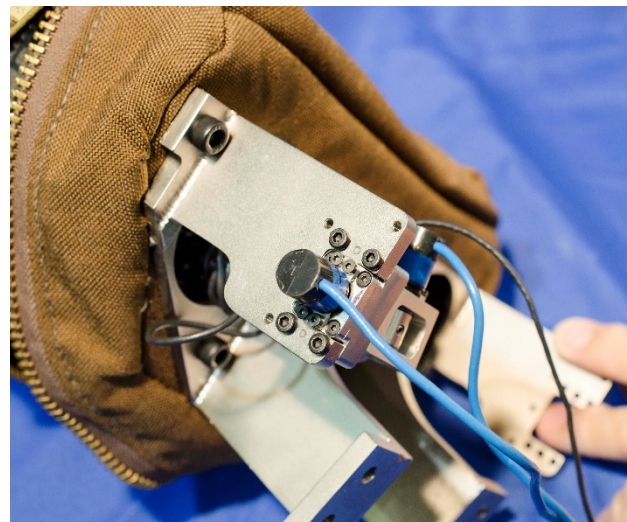

Figure 9-18. Install IR-TRACC into lower abdomen
9.2.2.15 Install the left side lower abdomen IR-TRACC assembly into the Left Attach Bracket Weld (472-4720-1) using four (per side) M3 x 0.5 x12 LG. SHCS (Figure 9-18).